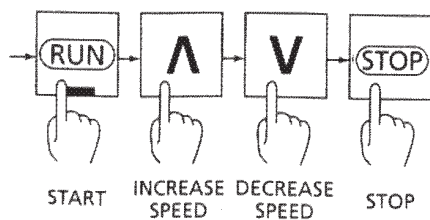

Figure 7-Operation/Run Diagram
5. Push and hold UP key until motor is running at desired speed. (See Figure 7.)